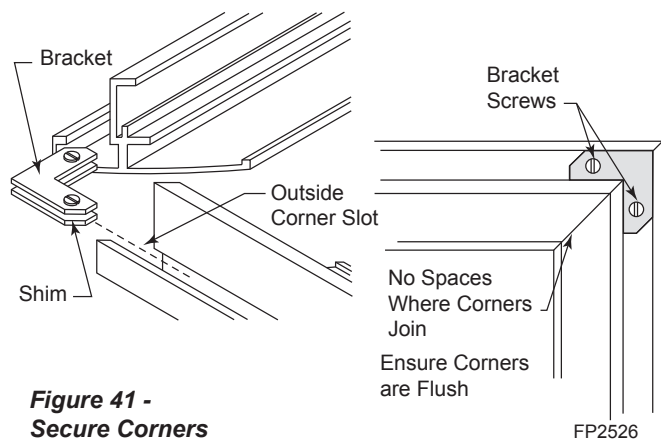

Figure 41 -
3. Slide one (1) 90° angled bracket (with attached screws) and one (1) 90° angled shim in the outside corner slot where the top and side trims meet. *Figure 41*
4. Hold the corners together securely. Tighten screws on bracket with flat head screwdriver. Make sure the corners are flush and there are no spaces. **Do not over tighten screws.** *Figure 41*